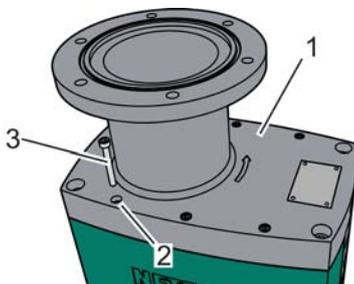

Fig. 91: Releasing the gear cover
1. ➔ Unscrew the attachment bolts (Fig. 91/3) from the boreholes (Fig. 91/2) of the gear cover (Fig. 91/1) and place to the side.